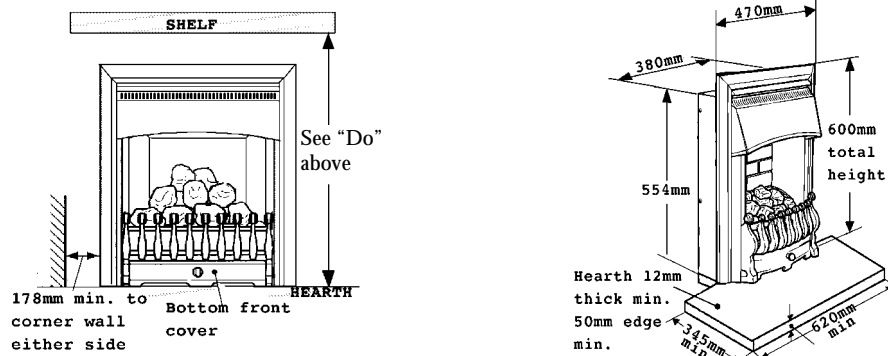

Figure 1 Dimensions & clearances
- Provide a minimum distance of 750mm from the top surface of the hearth to any shelf made of wood or other combustible material where the shelf is not more than 150mm deep (This will give a clearance of 150mm above the top of the fire). For a shelf deeper than 150mm, add 12.5mm to the clearance for every 25mm of additional shelf depth (see figure 1).
- Make sure that any combustible wall finish or cladding is removed from the area within the outer surround of the fire (see figure 1)
- Make sure that the fire is on a non-combustible hearth and that the hearth is at least the size shown in figure 1.
- Provide a minimum clearance of 178mm between the outer surround sides and any corner wall or other projection (see figure 1). Please bear this in mind if ever you are considering altering the room.
- Remove the bottom front cover (see figure 1). The controls are behind this cover.